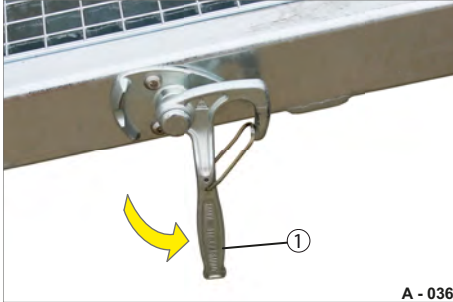

Fig. 38 Turning the rotary lever latch
- ▶ Turn the rotary lever latch (Fig. 38/1) downwards into the vertical position.